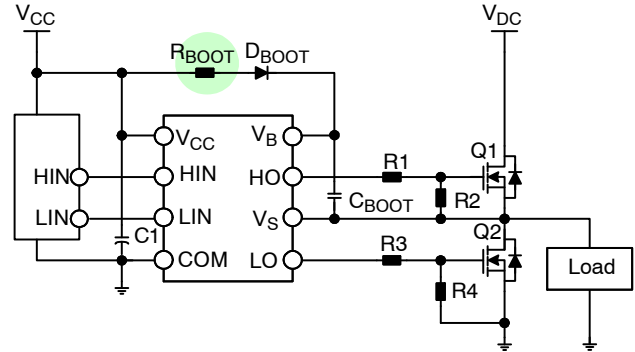

Figure 15. Adding a Series Resistor with Dboot
Figure 15. The bootstrap resistor, R_{BOOT} , provides current limit only during a bootstrap charging period which represents when the V_S goes below the IC supply voltage, V_{CC} , or is pulled down to ground (the low-side switch is turned on and the high-side switch is turned off). The bootstrap capacitor, C_{BOOT} , charge through the bootstrap resistor, R_{BOOT} , and diode, D_{BOOT} , from the V_{CC} power supply. The bootstrap diode must have a break-down voltage (BV) larger than V_{DC} and a fast recovery time to minimize the amount charge feedback from the bootstrap capacitor to V_{CC} power supply.